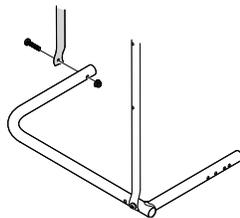

Figure 4
- Align second upright tube to corner tube and secure with one pan head screw and one hex nut as shown in Figure 4.